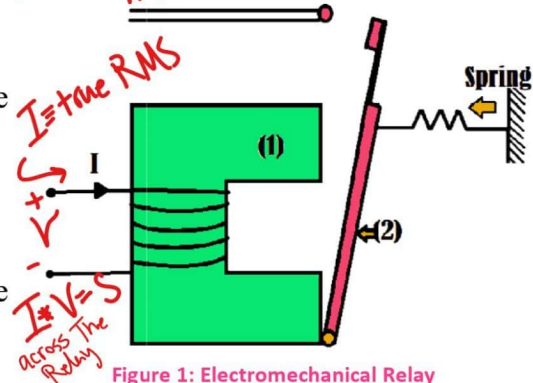

Figure 1: Electromechanical Relay
The operation principle of this relay depends on the electromagnetic force created by energizing the electromagnet (1), as shown in **Figure 1**.